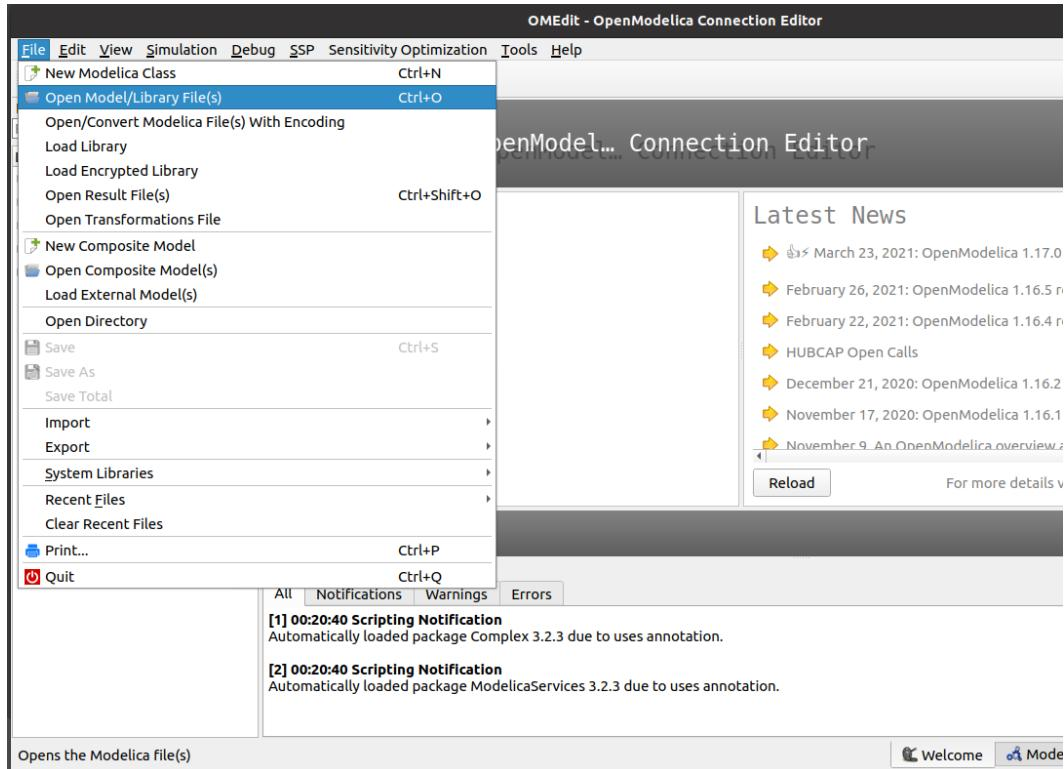

Figure 3.38: Opening a model in OMEdit
The files or models in OpenModelica have ‘.mo’ extensions. Though there are several ways to simulate or run an OpenModelica model, we will execute the models by utilizing the user interface of OMEedit. To open a model in OMEedit, go to the menu bar of OMEedit and click on File -> Open Model/Library File(s), as shown in Fig. 3.38. Then, select the desired model (with ‘.mo’ extension) and click Open. The names of tabs in this book have been mentioned according to OpenModelica 1.17.0. You might observe a bit of difference in these names while working with other versions of OpenModelica.
2. After launching, we have to load OpenModelica-Arduino toolbox. To do so, go to the menu bar of OMEdit. Click on File and then click on the Open Model/Library File(s) option as shown in Fig. 3.38.